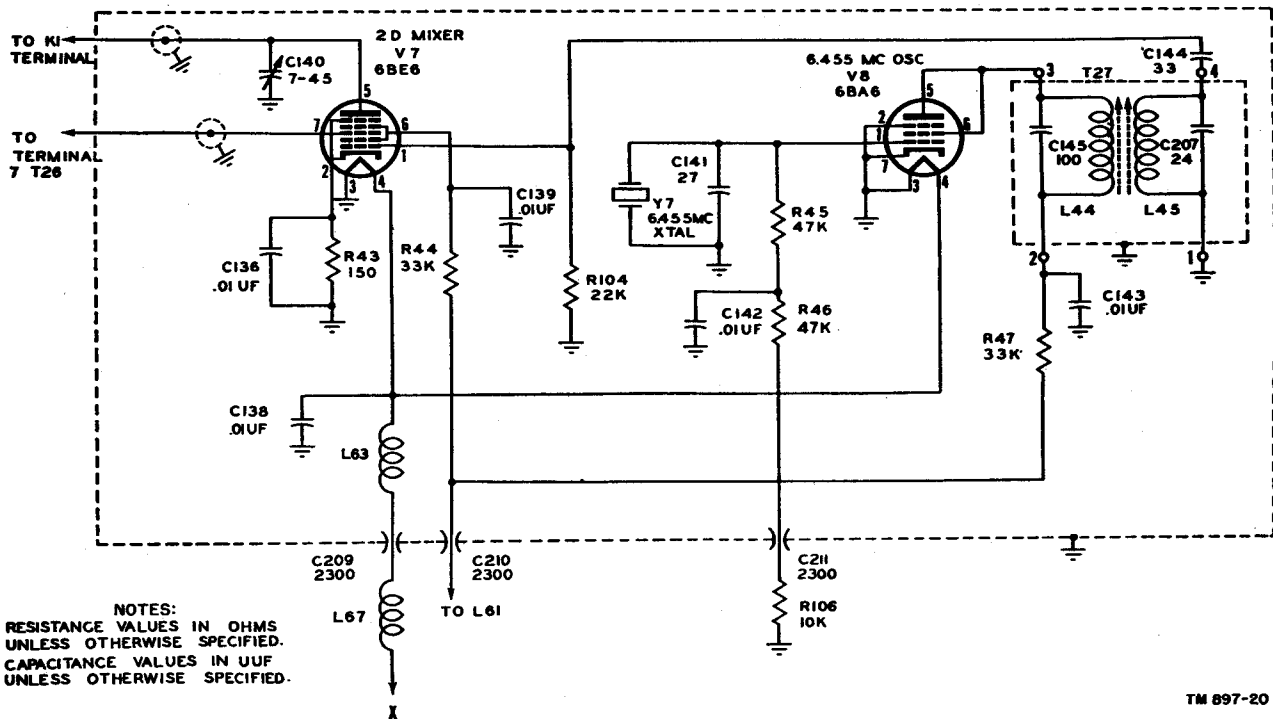

Figure 20. Radio Receiver R-274/FRR, functional diagram of 2d mixer and 6.455-mc oscillator.
a. The 2d mixer circuit is shown in figure 20. The 2d mixer tube (V7) is a type 6BE6 pentagrid converter tube which combines the 6-mc i-f signal with a signal coming from the 6.455-mc oscillator (V8) to produce a 455-kc signal. This 455-kc output then can be fed into the 455-kc i-f amplifier circuit for further amplification. In BANDS I, II, and III, the plate is shorted directly to +B without a load. Any spurious signals occurring at the plate of the tube are bypassed to ground through the power supply filter capacitors. In
*a.* The functional diagram of the 6.455-mc crystal oscillator is shown in figure 20. It is a crystal-controlled oscillator using a type 6BA6 pentode tube (V8) connected as a triode. The output is fed to the first grid of the 2d mixer (V7) to be mixed with the 6-mc i-f signal to produce a 455-kc i-f signal at the plate of V7. In BANDS I, II, and III, the oscillator (fig. 43) has -24 volts of bias applied, and does not function. In BANDS IV, V, and VI, this bias is removed, allowing the stage to oscillate as required.